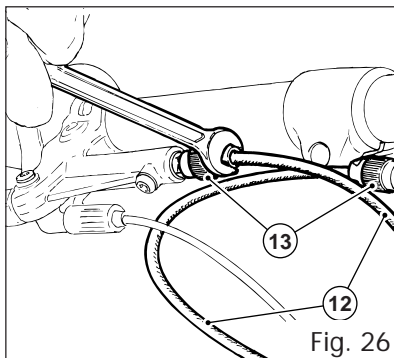

Fig. 26
- insert the tube at the needle (15) into the unidirectional valve and tighten the locknut correct (13, fig. 26).